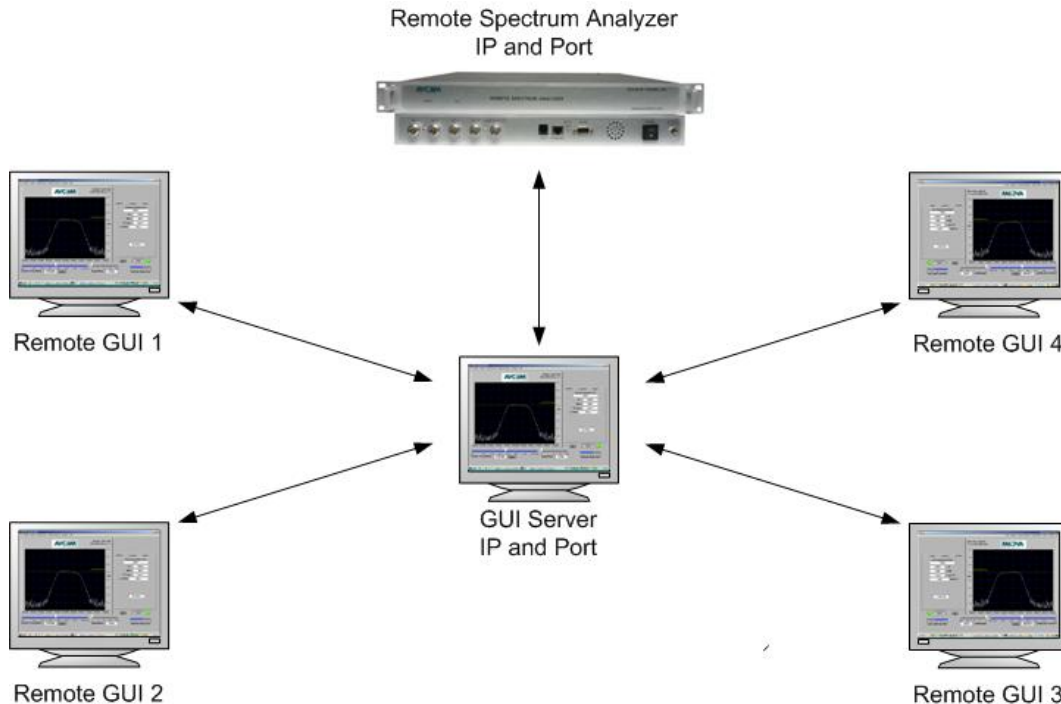

Figure 1
AVCOM GUI v2.8.1 has a new feature that allows multiple GUIs to connect to the same AVCOM spectrum analyzer (SA) simultaneously through a central GUI acting as the server as shown in Figure 1. The arrowed lines indicate the direct lines of communication.